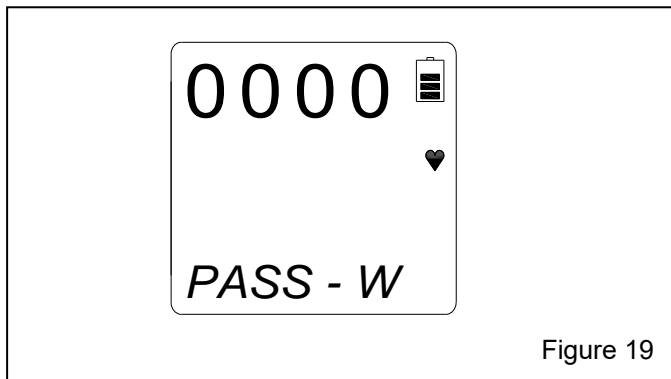

Figure 19
**4.4.2.3** Release both buttons after the second beep. The LCD screen should be as shown in Figure 19 with the digit on the left flashing.